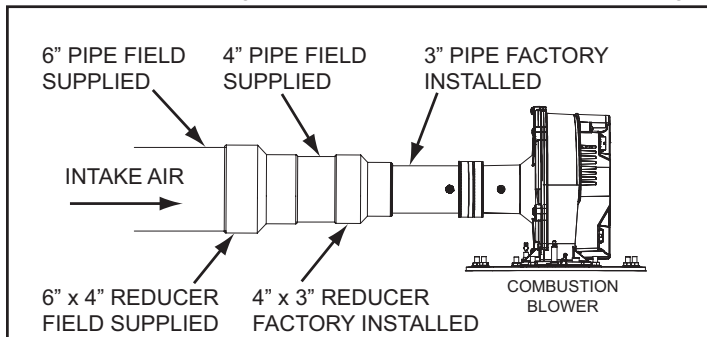

Figure 18. Intake Air Connection
14. If installing 6" intake air pipe transition to 4" pipe at the intake air connection on the water heater as shown in *Figure 18*. The field installed 4" pipe between the intake air connection and the 6" x 4" reducer coupling should be 18 inches (45 cm) or less in length.